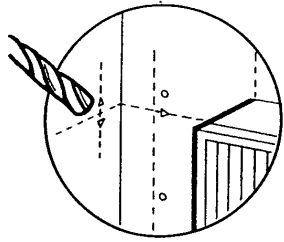

Fig. 39
13. Cut a hole approximately 107mm (4 1/4 in) diameter in the masonry for the 100mm (4 in) diameter flue duct (Fig. 39). (Use of a core drill is recommended. When using a core drill, it is important to keep the drill level and square, particularly with the wall onto which the boiler is to be fitted).